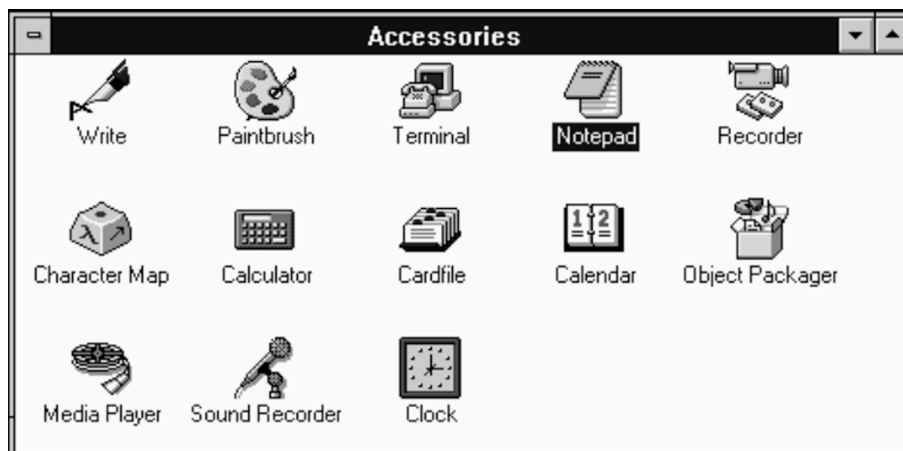

Fig 9.13 Accessories group
70.3 Access Windows Terminal (normally located in Accessories group (Fig 9.13).